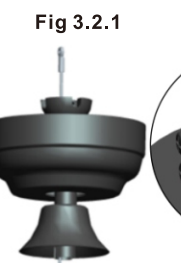

Fig 3.2.1
3.2 Pass the motor power cord and safety cable through the downrod. (See Fig 3.2.1)